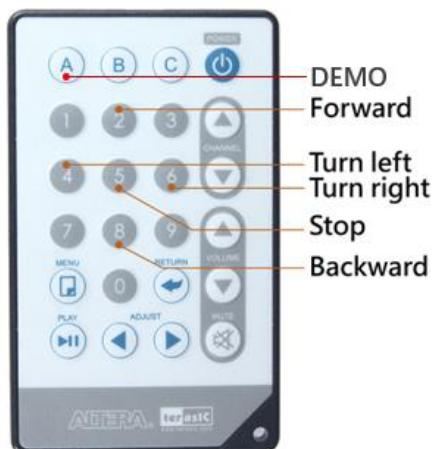

Figure 5-15 Robot remote control
Figure 5-15 shows the remote control for the robot, point IR remote control to the robot, the robot will move forward when users press key 2, the robot will stop moving when user press key 5. The key 8 is used to move the robot backward, key 4 is used to turn the robot to the left, and key 6 is used to turn the robot to the right, Key A is used to perform the scheduled action. Table 5-1 shows the functions of each key number on the controls.